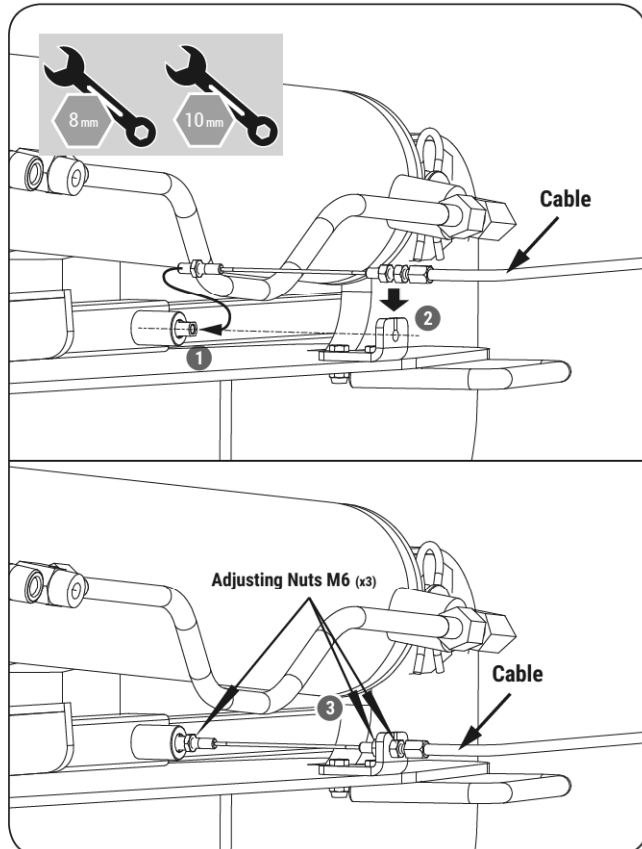

Figure 3b
2. Screw the straight end of the cable into the side spring pin hole. (See **Figure 3b, illustration 1.**) Pass the cable between the lower two adjusting nuts through the middle hole of the cable fixing plate. (See **Figure 3b, illustration 2.**) By adjusting the three adjusting nuts, make sure the cable between the side spring pin and the cable fixing plate is just straightened. (See **Figure 3b, illustration 3.**)